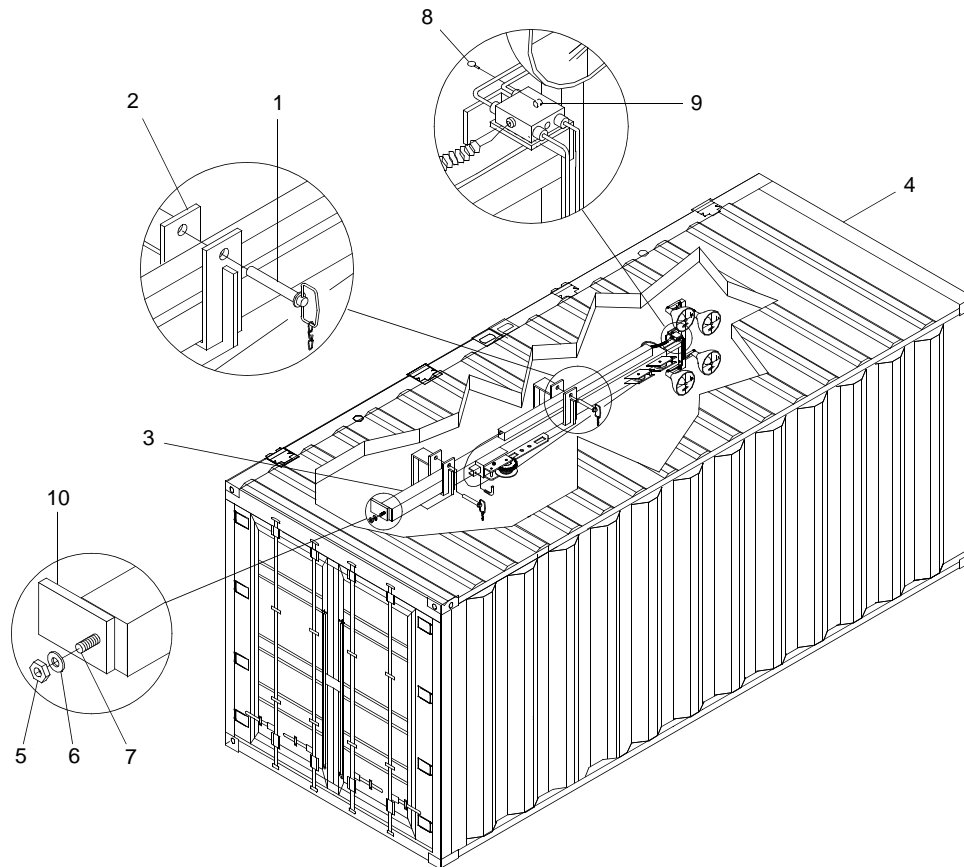

Figure 3. Removing Towers from Container
18. Remove hitch pins (figure 3, item 1) from wall brackets (figure 3, item 2) securing tower (figure 3, item 3) to side wall of light tower container (figure 3, item 4).
19. At the lower end of tower (figure 3, item 3), remove nut (figure 3, item 5) and washer (figure 3, item 6) from stud (figure 3, item 7).
20. At the upper end of tower (figure 3, item 3), remove quick release pin (figure 3, item 8) from locator pin (figure 3, item 9).
21. Slide tower (figure 3, item 3) so that it clears the locator pin (figure 3, item 9) at the upper end and the tower stud (figure 3, item 7) clears the bracket (figure 3, item 10) at the lower end.
22. Using six people, remove tower (figure 3, item 3) from light tower container (figure 3, item 4).